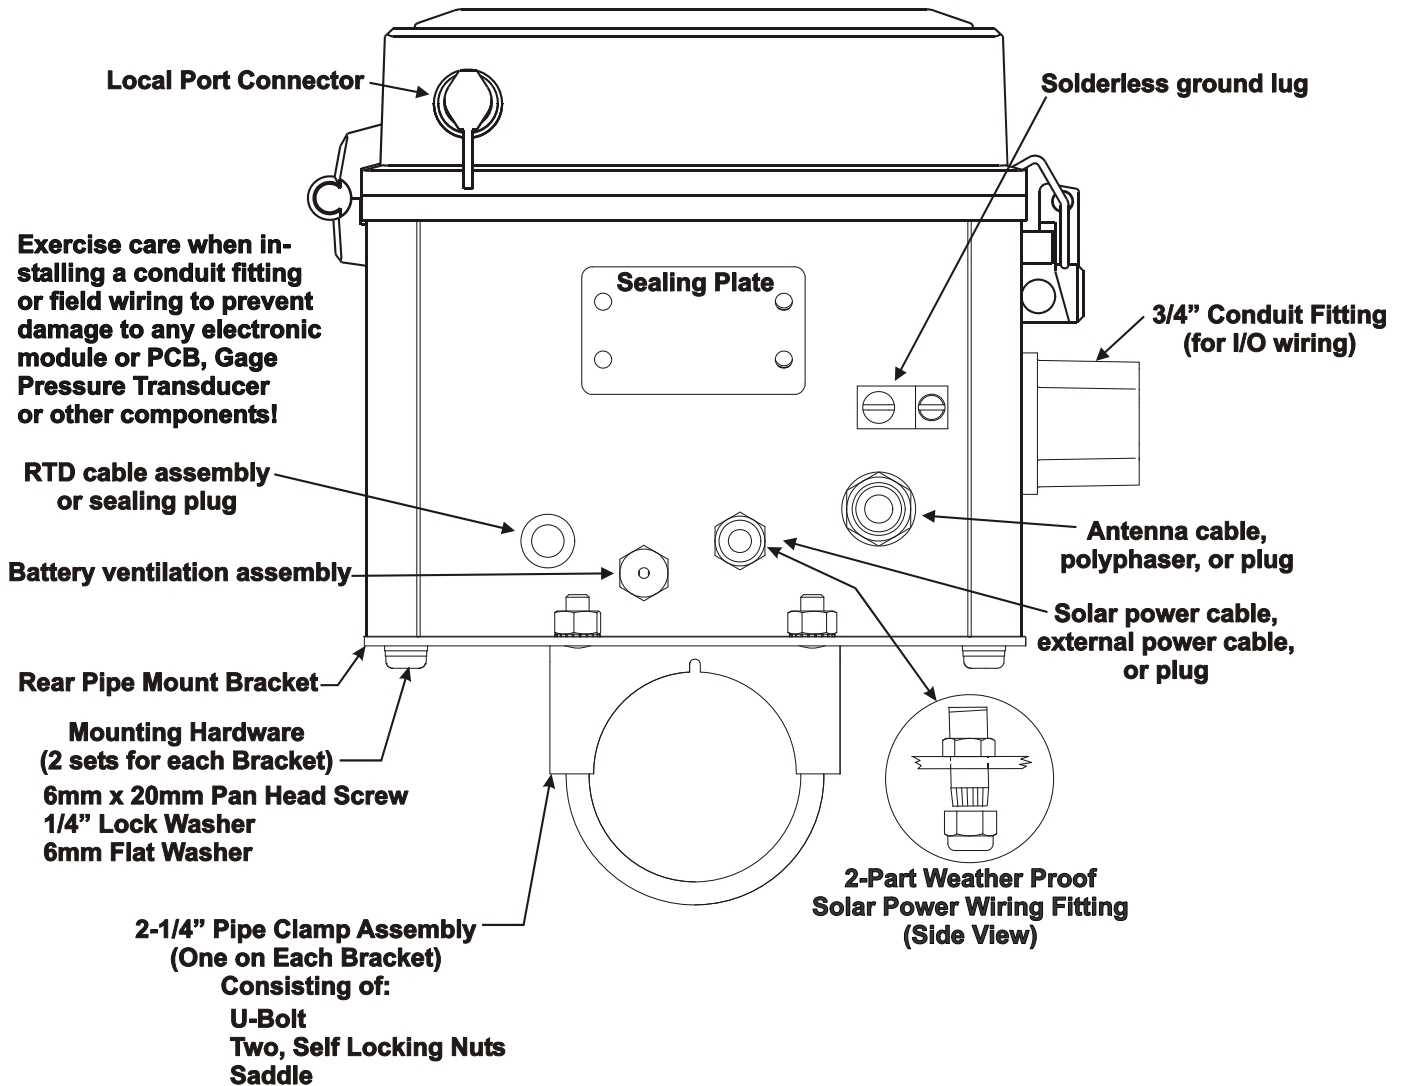

Figure 2-3. ControlWave ExpressPAC Bottom View
- I/O wiring, external power wiring, RTD wiring, antenna cabling, and communication port cabling enters the bottom of the unit through conduit or special function fittings. (See *Figure 2-3*.) I/O wiring is routed through the left side of the unit (right when facing the front) via a 3/4 inch conduit fitting.